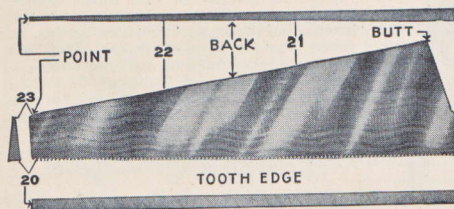

Fig. 43—Showing how ATKINS Hand Saws are Taper Ground. (Exaggerated for sake of clearness.) Figures are gauges—higher the figure, the thinner the saw.
After tempering, the SILVER STEEL blades for ATKINS Hand Saws are cooled and then sent to the grinding room where they are two-way Taper Ground. The blade is so ground that it actually tapers (1) from tooth edge, the widest part, throughout the entire blade towards the back of saw which is the thinnest part; and (2) gradually tapers from the handle to point of the saw. See Fig. 43. The